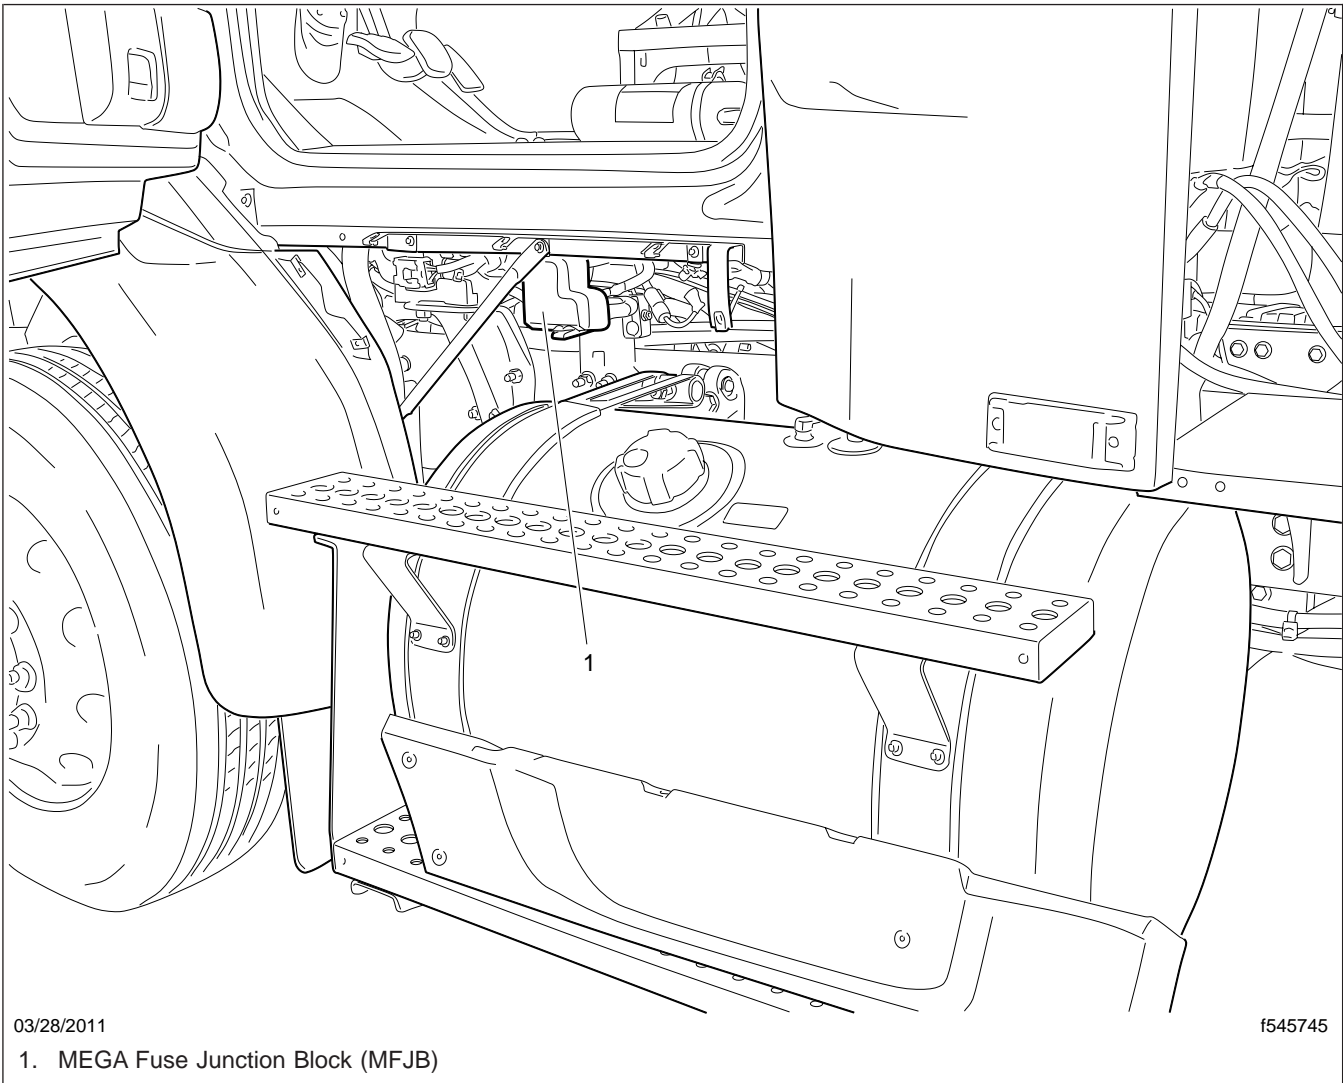

Fig. 2, Side Fairing Removed to Access MFJB
2. If the vehicle is equipped with side fairings, remove the forward driver side fairing to access the MFJB. See Fig. 2.